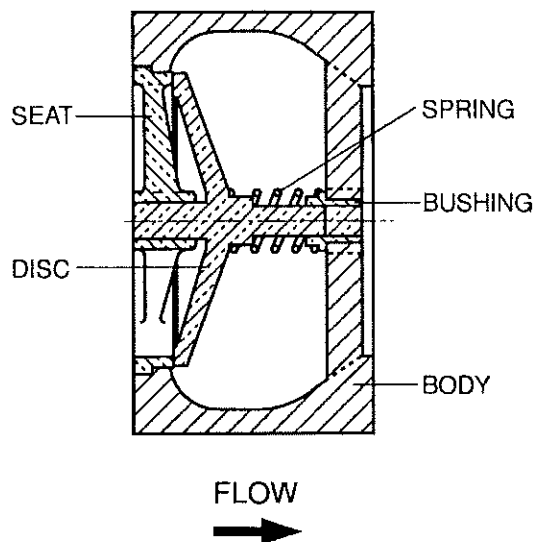
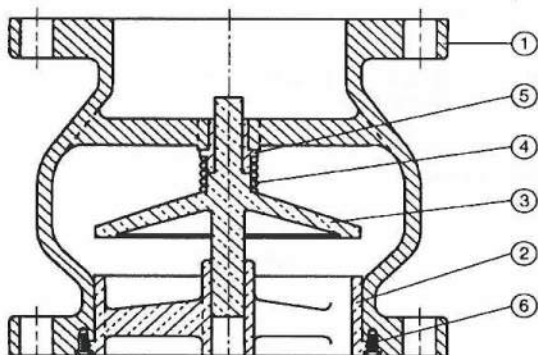

FIGURE 1. WAFER STYLE SILENT CHECK VALVE
FIGURE 2. GLOBE STYLE CHECK VALVE
The silent check valve is designed to prevent reverse flow automatically. On pump start-up, the flow of water enters the valve from the seat end (left side in Figure 1) and forces the disc open, allowing the passage of fluid through the valve. On pump shut-down, the spring closes the disc before a flow reversal takes place. This type of closure, which prevents flow reversal, is the factor which allows "silent" operation and prevents water hammer associated with check valve slam.
The valve body is supplied with either compact wafer ends as shown in Figure 1 for installation between mating flanges or in a flanged configuration, Figure 2.
The standard check valve body (1) is constructed of iron. See the specific Materials List submitted for the order if other than standard iron construction. The internal metal components are bronze or stainless steel. The disc (3) and spring (4) are the only moving parts and require no maintenance or lubrication. The general details of construction are illustrated in Figures 2 and 3.
The valve should be removed from the pipeline for disassembly. All work on the valve should be performed by a skilled mechanic with proper tools. Refer to Figures 2 or 3.